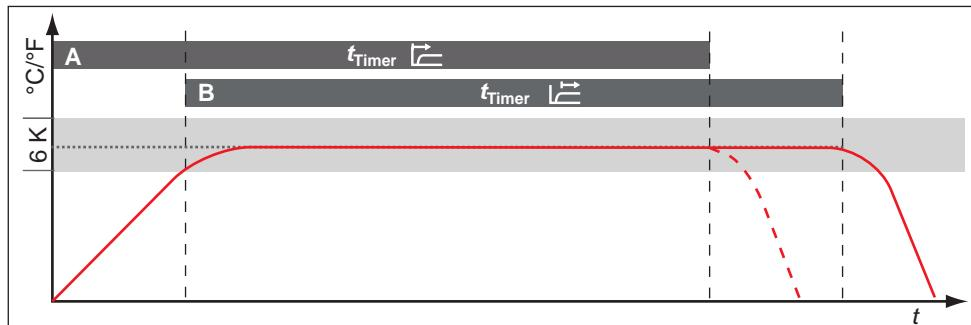

Fig. 29 Timer mode
Here, you can choose whether the digital backwards counter with target time setting (see page 30, timer) should run setpoint-dependent or not – this determines whether the timer should not start until a tolerance band of  $\pm 3$  K around the set temperature is reached (Fig. 29, B) or whether it should start right after activation (A).